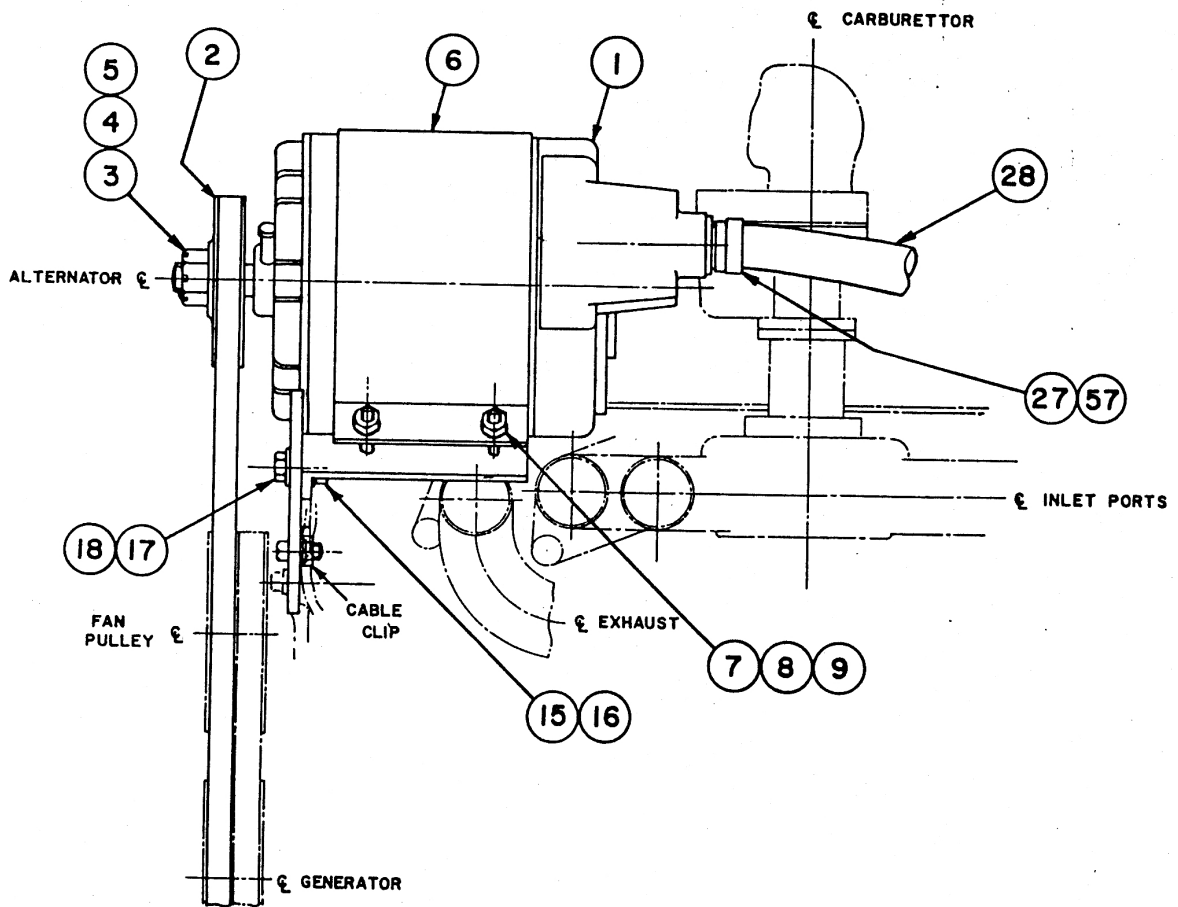

FIG 3 - FITTING OF ALTERNATOR TO ENGINE - SIDE ELEVATION
16. Attach the stay to the clamp using bolt (17), nut (15), flat washer (18) and lock washer (16) (fig 3).